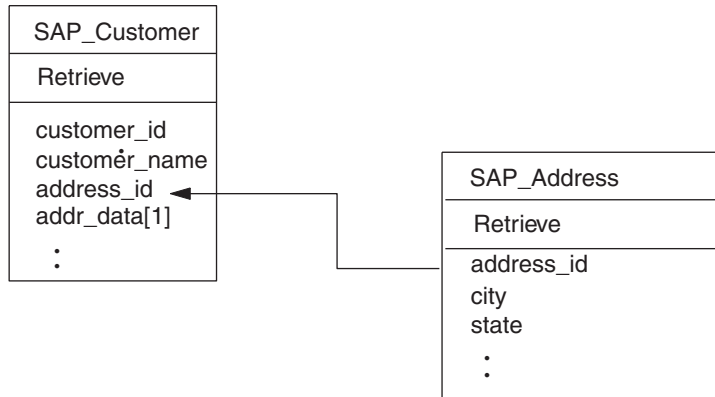

Figure 31. Example customer and address relationship
- In a single-cardinality relationship, the foreign key is determined by the primary key in the child referencing a **non-key** attribute in the parent as its foreign key. Each child has at least one simple attribute that references a non-primary key attribute in its parent as a foreign key. Figure 31 on page 216 provides an example.
Figure 31 on page 216 provides an example of a simple WebSphere business object developed to process customer objects in SAP. This example SAP_Customer has a single-cardinality relationship to the example address object that it contains (the `addr_data[1]` attribute has cardinality 1). The primary key attribute (`address_id`) in the child business object references a non-primary key (`address_id`) in the parent business object.